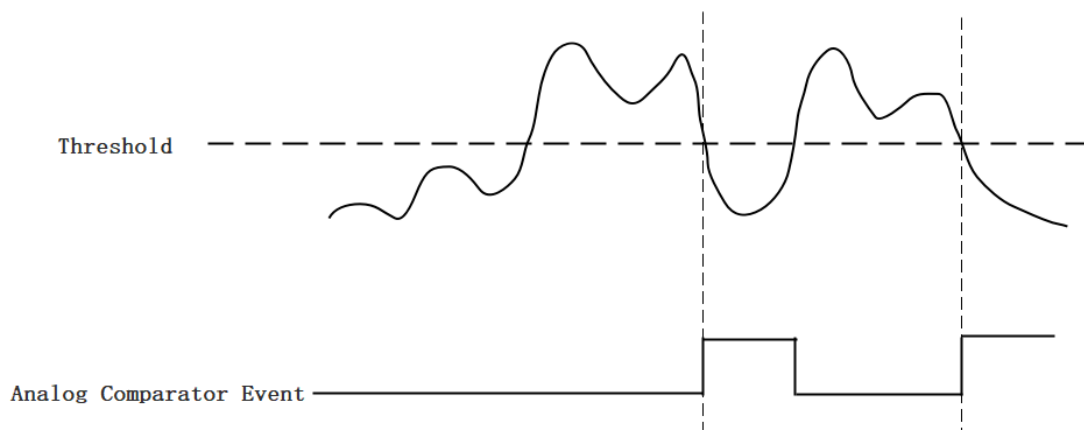

Figure 6 Falling Slope Trigger
**Falling Slope Trigger:** The Edge comparator output is high when the signal goes below the threshold; the output is low when the signal goes above the threshold as shown in Figure 6.